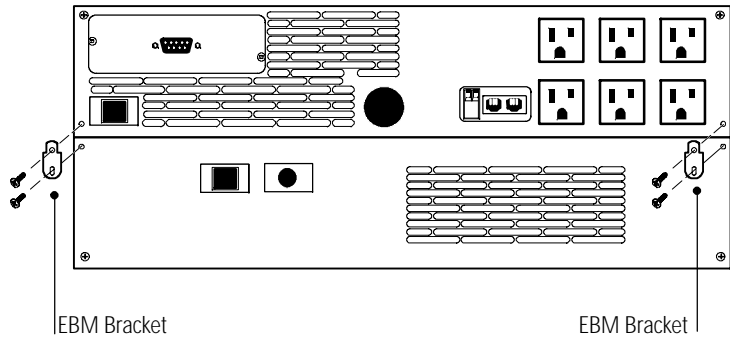

Figure 8. Installing the EBM Brackets
2. Remove the adjacent corner screws from the rear panels as shown in Figure 8 to install the EBM brackets.